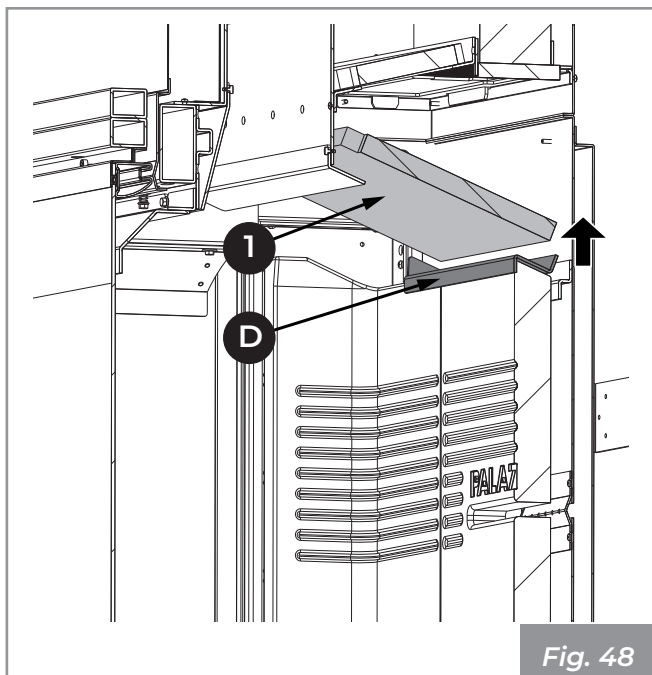

Fig. 48
- 4) Lift and extract first the panels (1) and then the refractory support bracket (D) (Fig. 48)